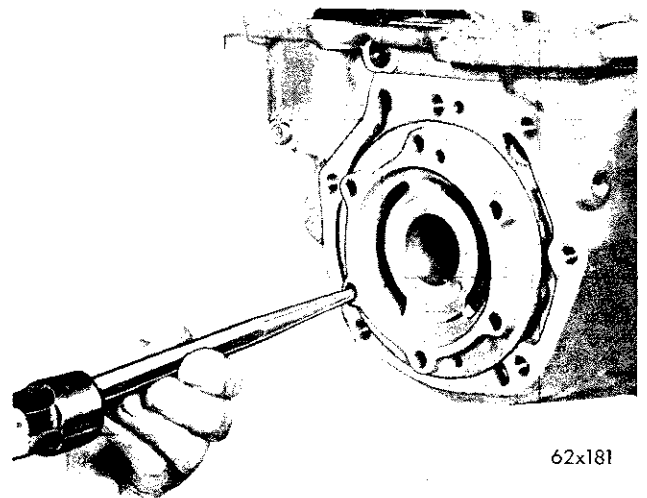
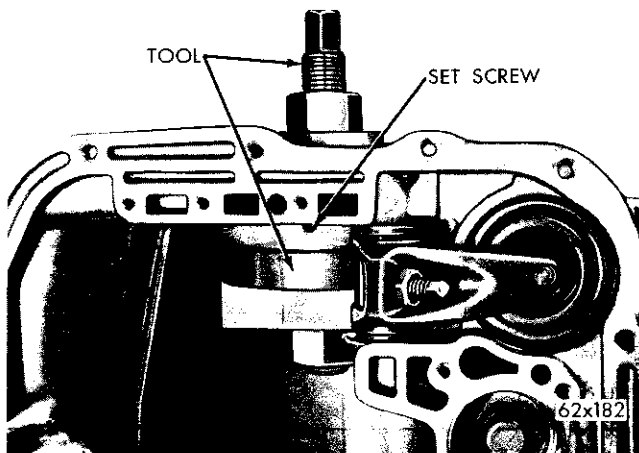

Fig. 81—Removing Overrunning Clutch Cam
Fig. 82—Installing Overrunning Clutch Cam
- (1) Remove set screw from the case below the clutch cam.
- (2) Insert a punch through the pump body bolt holes and drive the cam from the case (Fig. 81). Alternate the punch from one bolt hole to another so the cam will be driven evenly from the case.
- (3) Clean all burrs and chips from the cam area in the case.
- (4) Place the spring retainer on the cam, making sure the retainer lugs snap firmly into the notches on the cam.
- (5) Position the cam in the case with the cam serrations aligned with those in the case. Tap the cam **evenly** into the case as far as possible with a soft mallet.
- (6) Install Tool C-3863 (Fig. 82), tighten nut on the tool to seat the cam into the case. Make sure the cam is firmly bottomed, then install the cam retaining set screw. Stake the case around the set screw to prevent it from coming loose.